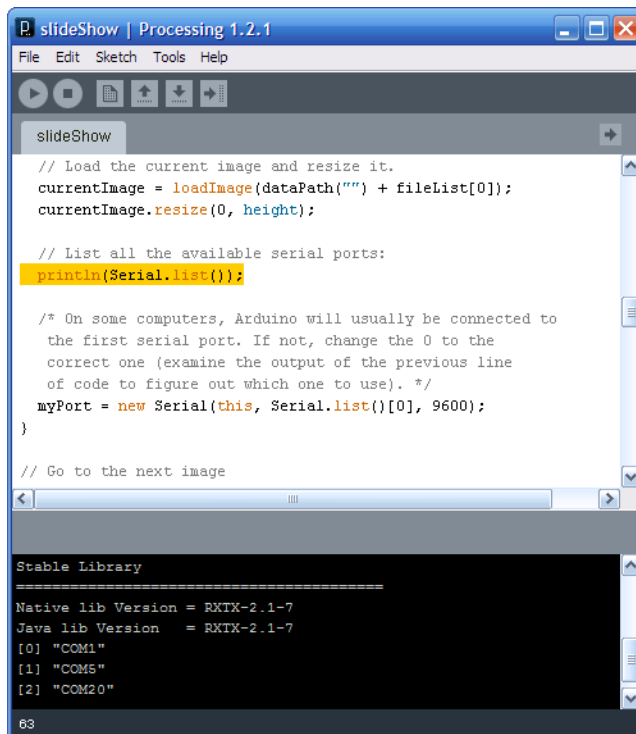

Figure 5-25. Processing listing its serial ports
- ❶ Processing comes with a number of libraries that extend its capabilities. This line loads the serial library, which lets Processing talk to serial ports.
- ❷ Declare an object named `myPort` of the type `Serial`.
- ❸ The `setup()` method functions just like the `setup()` method in Arduino: it's called once per sketch.
- ❹ Create a window of the specified width and height (in pixels).
- ❺ You'll see something similar to these bold lines in many Processing sketches that talk to the serial port. The first line prints out all the serial ports that Processing can find (see Figure 5-25). On most computers, the Arduino will be connected to the first serial port; this is because most modern computers don't have any built-in serial ports, so the lowest-numbered port is almost always the one Arduino is using. If this is not the case, examine the output in the Processing window and change the `0` on the last bold line to the index of the correct serial port.